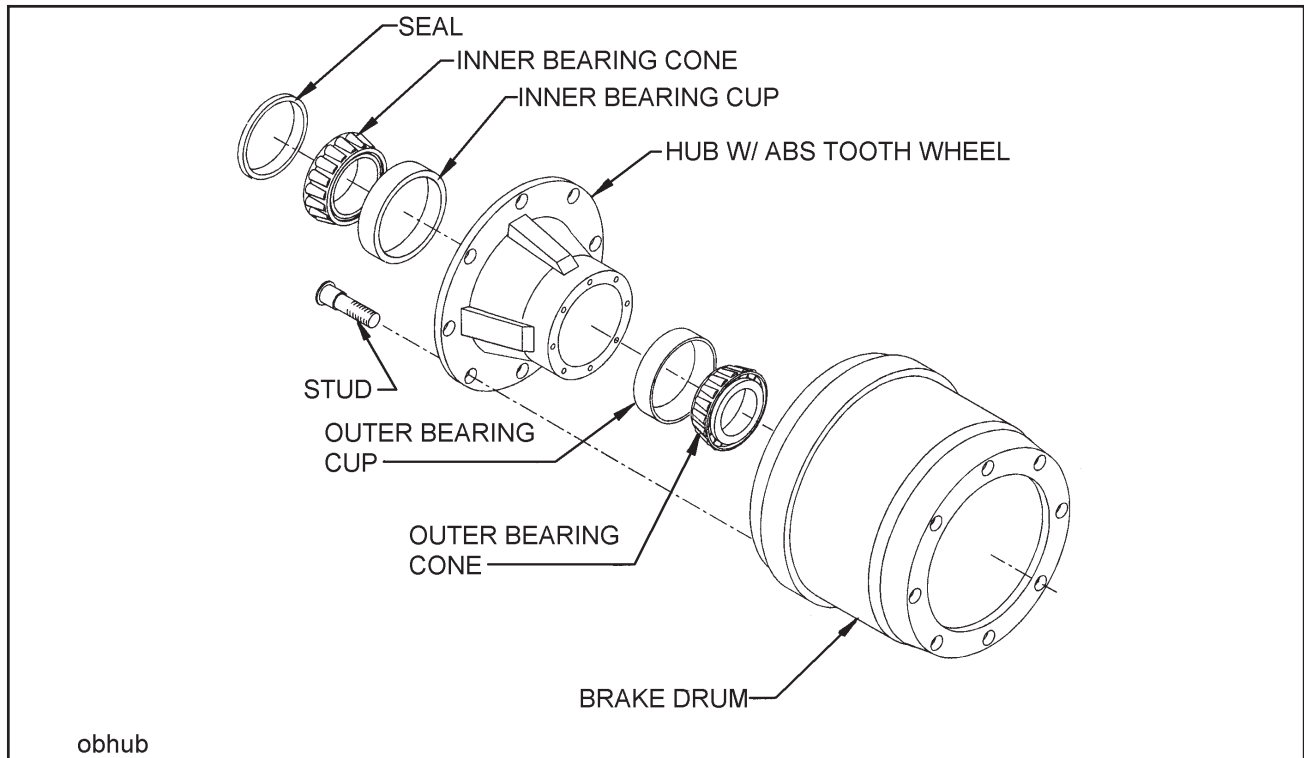

Figure 4-13 Outboard Mount Hub and Drum
- 4-9.4** Replace the hub and drum as follows **(See Figure 4-13):**
- a. Remove the brake drum **(See Figure 4-13)**. It may be necessary to release the slack adjuster.